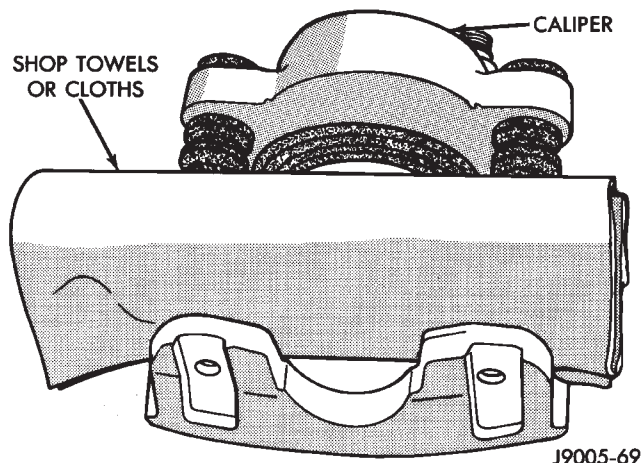

Fig. 45 Padding Caliper Interior
- (1) Remove brake shoes from caliper.
- (2) Drain brake fluid out of caliper.
- (3) Take a piece of wood and pad it with one-inch thickness of shop towels. Place this piece in the out-board shoe side of the caliper in front of the piston. This will cushion and protect caliper piston during removal (Fig. 45).